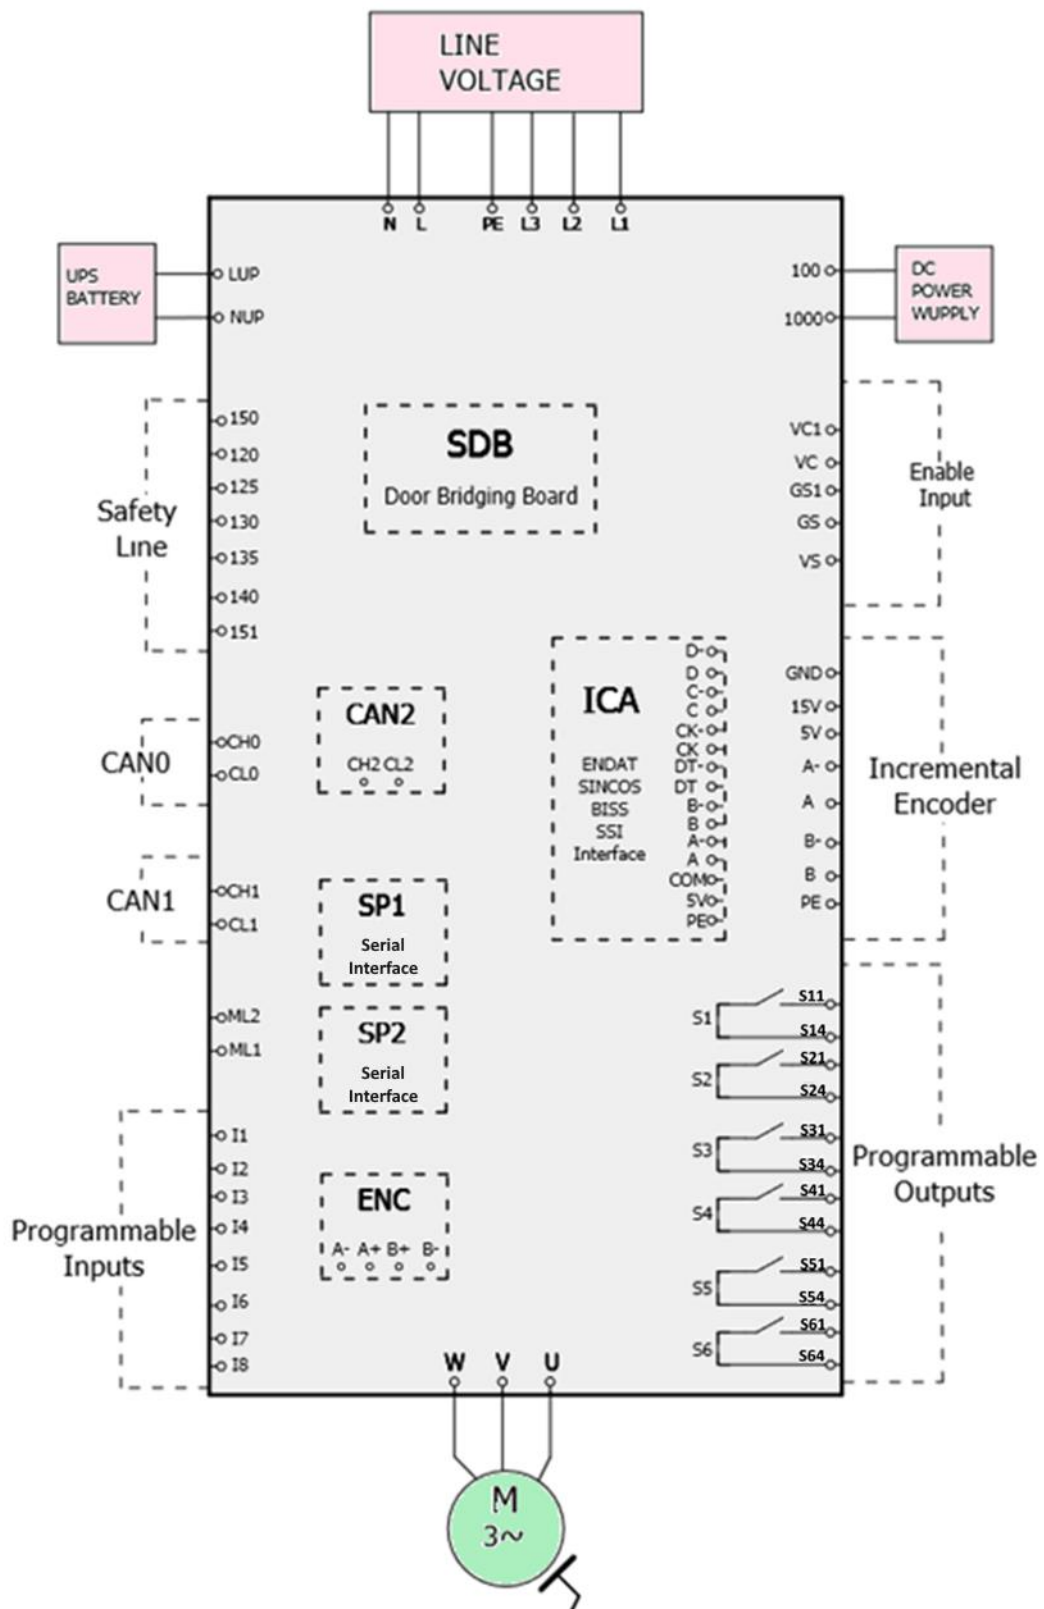

Figure 2.1b Main Terminals and the Locations of Add-on Boards
Main terminal blocks are shown in Figure 2.1b. The main hardware configuration is supplied to support EN81-20/50 lift standard. Therefore, almost no additional card is required in most applications. Two main add-on boards, door bridging and absolute encoder boards are left as option depending on the standard or motor type. Incremental encoder interface is built in. The device can also be used for the standard EN81-1+A3 or less without door bridging board.
- Connect earth (PE) terminal before you switch on power.
- Make sure that you have left enough free air space around the system box. It is very important for air circulation to cool the device. It is advised to have a free space of minimum 50 mm at the sides and 100 mm above and below the system box as shown in Figure 2.1b.